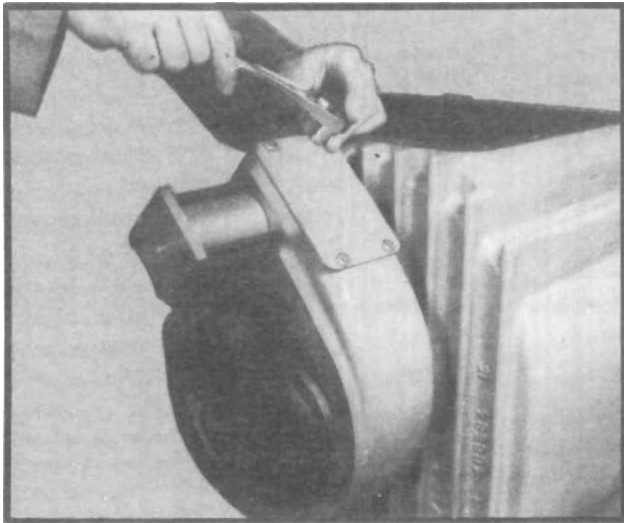

Fig. 4
4. Remove four capscrews from PTO/declutch cover plate, and tap plate to loosen. (See fig. 4.)